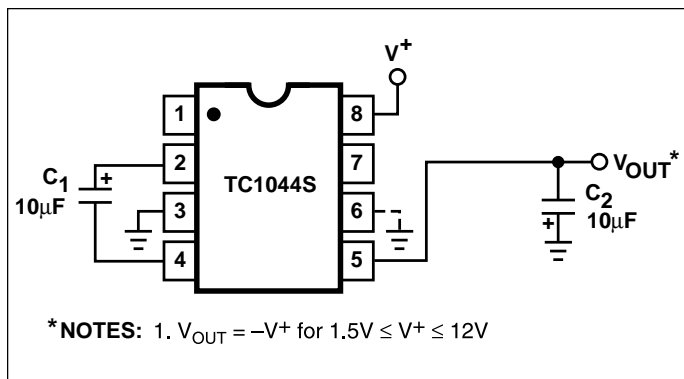
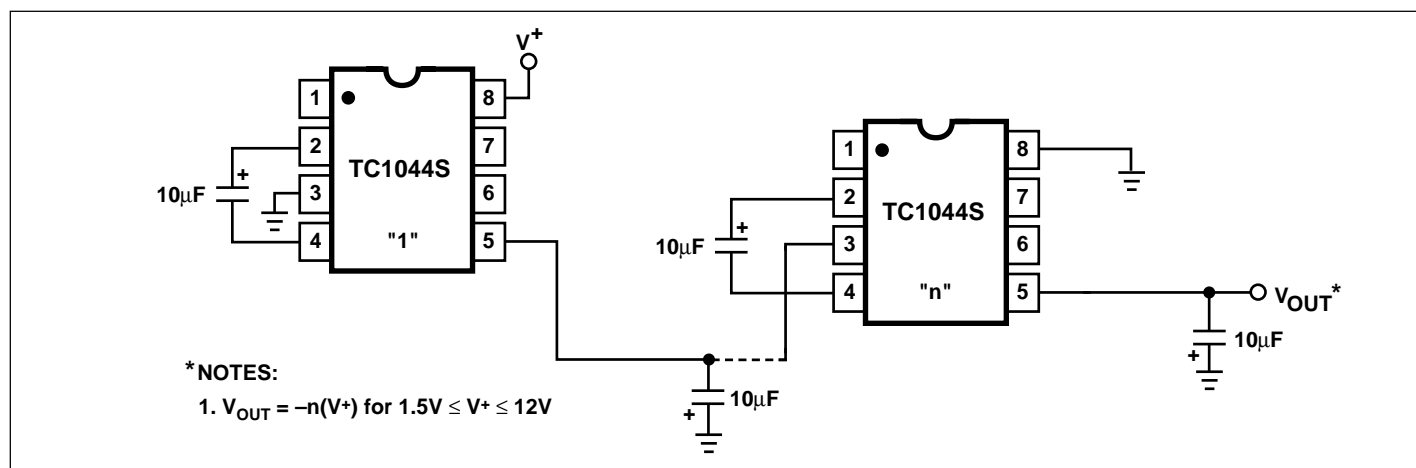
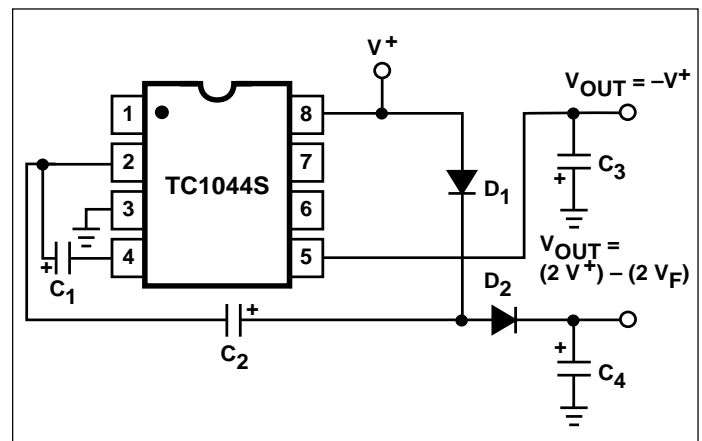
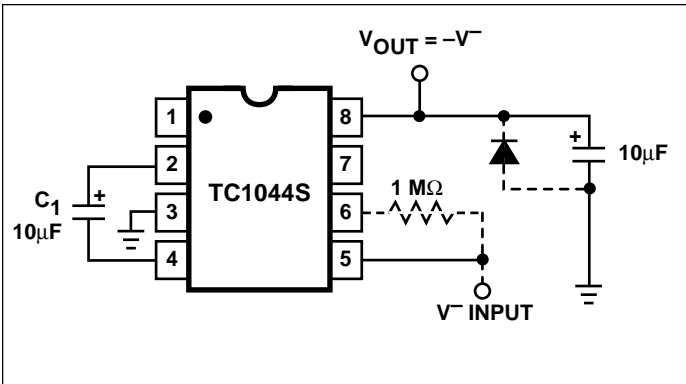

Figure 3. Simple Negative Converter
Figure 5. Increased Output Voltage by Cascading Devices
Figure 9. Combined Negative Converter and Positive Multiplier
Figure 10. Positive Voltage Conversion
Figure 3 shows typical connections to provide a negative supply where a positive supply is available. A similar scheme may be employed for supply voltages anywhere in the operating range of +1.5V to +12V, keeping in mind that pin 6 (LV) is tied to the supply negative (GND) only for supply voltages below 3.5V.
The output characteristics of the circuit in Figure 3 are those of a nearly ideal voltage source in series with 70Ω . Thus, for a load current of $-10mA$ and a supply voltage of $+5V$, the output voltage would be $-4.3V$.
The TC1044S may be cascaded as shown (Figure 5) to produce larger negative multiplication of the initial supply voltage. However, due to the finite efficiency of each device, the practical limit is 10 devices for light loads. The output voltage is defined by:
Figure 9 combines the functions shown in Figures 3 and 8 to provide negative voltage conversion and positive voltage multiplication simultaneously. This approach would be, for example, suitable for generating +9V and -5V from an existing +5V supply. In this instance, capacitors C_1 and C_3 perform the pump and reservoir functions, respectively, for the generation of the negative voltage, while capacitors C_2 and C_4 are pump and reservoir, respectively, for the multiplied positive voltage. There is a penalty in this configuration which combines both functions, however, in that the source impedances of the generated supplies will be somewhat higher due to the finite impedance of the common charge pump driver at pin 2 of the device.
Since the switches that allow the charge pumping operation are bidirectional, the charge transfer can be performed backwards as easily as forwards. Figure 10 shows a TC1044S transforming -5V to +5V (or +5V to +10V, etc.). The only problem here is that the internal clock and switch-drive section will not operate until some positive voltage has been generated. An initial inefficient pump, as shown in Figure 9, could be used to start this circuit up, after which it
will bypass the other (D_1 and D_2 in Figure 9 would never turn on), or else the diode and resistor shown dotted in Figure 10 can be used to "force" the internal regulator on.
The same bidirectional characteristics used in Figure 10 can also be used to split a higher supply in half, as shown in Figure 11. The combined load will be evenly shared between the two sides. Once again, a high value resistor to the LV pin ensures start-up. Because the switches share the load in parallel, the output impedance is much lower than in the standard circuits, and higher currents can be drawn from the device. By using this circuit, and then the circuit of Figure 5, +15V can be converted (via +7.5V and -7.5V) to a nominal -15V, though with rather high series resistance ($\sim 250\Omega$).